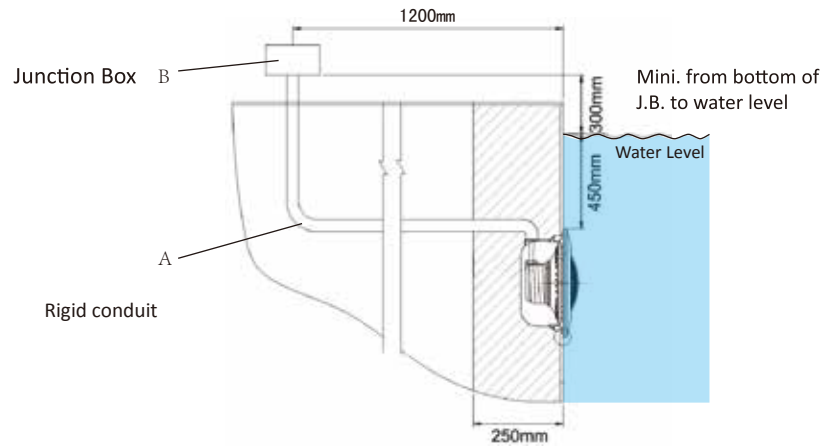

Figure 1
3. The mounting bracket must be properly installed so that the top edge of the light's lens is at least 450mm below the water level in the pool. see Figure 1.